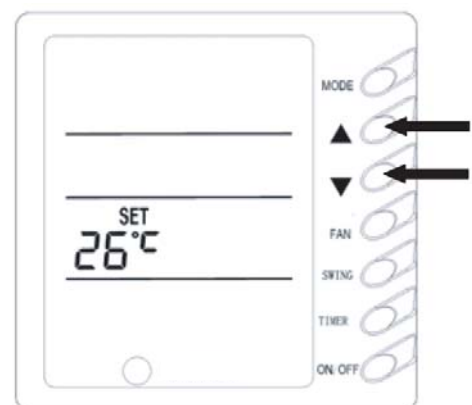

Fig 4
3) Temperature adjustment(Fig.4)